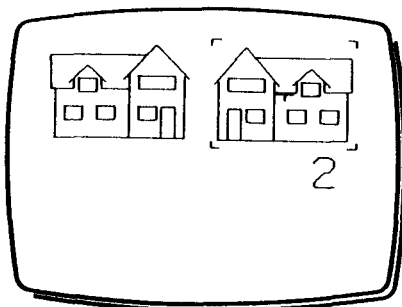

Fig 2
- 9 Plant the house as (2) in Fig 2, the house appears as a mirror image of (1) about the vertical axis.